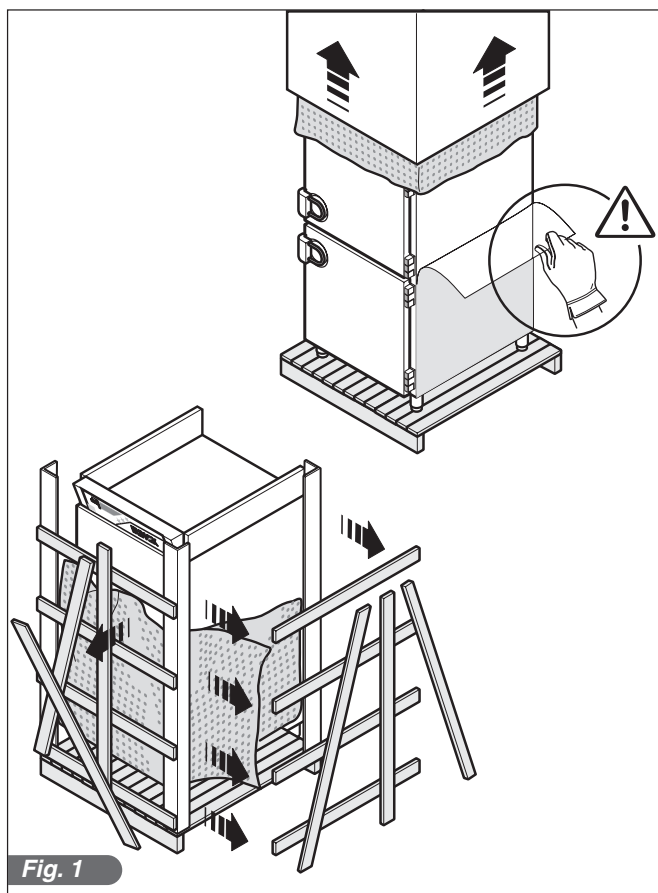

Fig. 1
- Remove the protective PVC film from all sides (fig. 1).